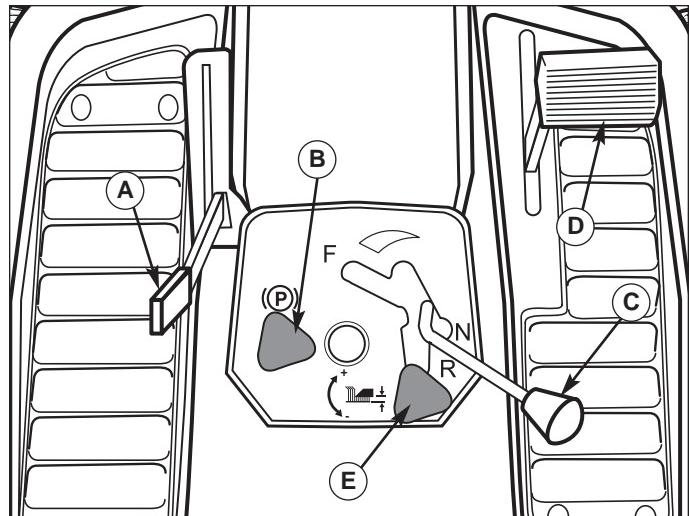

Figure 4. Controls
1. Remove the fuel cap (A, Figure 4).
Ground speed is selected by depressing the clutch/brake pedal (D, Figure 4) and moving the control lever (C, Figure 4) to the appropriate speed selection. If the terrain is rough, hilly or sloping, use first or second gear. If the grass is wet or over 3" (76mm) high, use full engine speed (with slow ground speed) so the mower will have enough power to cut the grass.
1. If you are ready to mow, lower the mower from the transport position using lever (A, Figure 4) and set the mowing height using the Dial-A-Cut™ Control (E, Figure 4).
4. Release the parking brake by depressing the clutch/brake pedal and pushing knob (B, Figure 4) down.
5. Move the ground speed control lever (C, Figure 4) to the desired direction and speed of travel to set the rider in motion.
1. Move the ground speed control lever (C, Figure 4) into the NEUTRAL position to make a gradual stop. To make a more rapid stop, depress the /brake pedal (D, Figure 4).
2. Engage the parking brake by fully depressing brake pedal and pulling up on parking brake knob (B, Figure 4).
- When traveling to or from the work site, fully raise the mower using the mower lift lever (A, Figure 4). At the work site, lower mower using the lift lever.
- Use the Dial-A-Cut™ control (E, Figure 4) to adjust the height of the mower. Pull back slightly on mower lift lever (A, Figure 4) to relieve pressure and turn clockwise to raise mower cutting height, or counter-clockwise to lower cutting height.